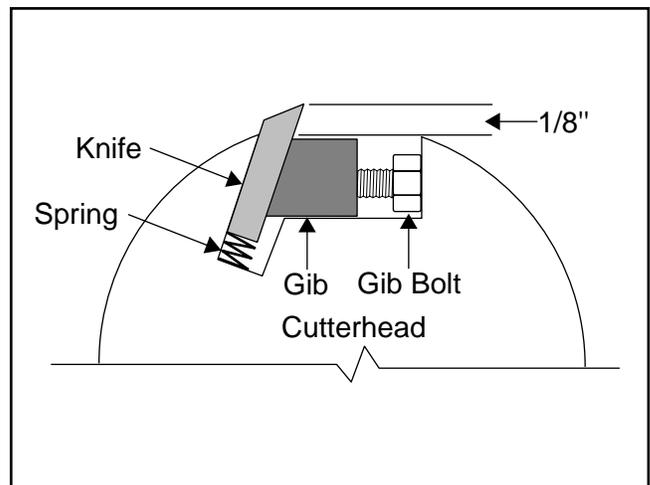

Figure 14. Proper attachment of the knives in the cutterhead.
5. After sharpening or replacing the old knife, insert the knife you wish to use into its seat in the cutterhead, making sure that the springs are placed properly below it. See **Figure 14**.